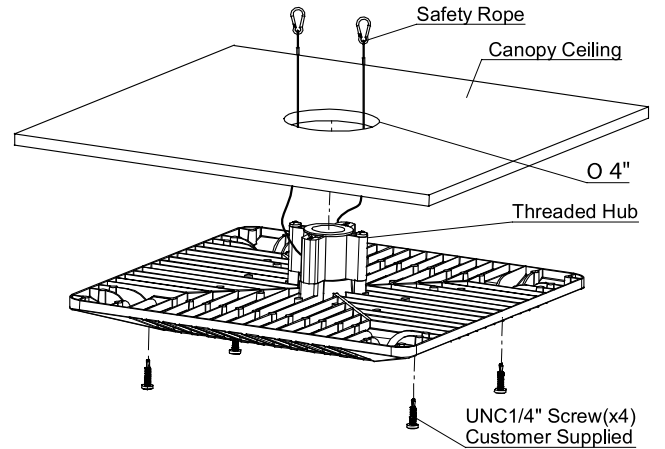

Figure 6
4. Bring housing to canopy ceiling. Insert threaded hub and Safety Rope (2) into the 4" round opening. Support the luminaire to the building structure by the Safety Rope (2). Secure the housing with customer supplied UNC 1/4" Screw (4). See Figure 6.